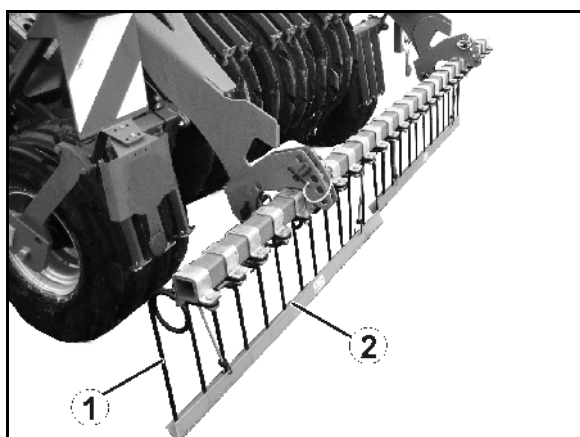

Fig. 8
Rear harrow (Fig. 8/1):
- Road safety bar (Fig. 8/2) for the rear harrow during road transport